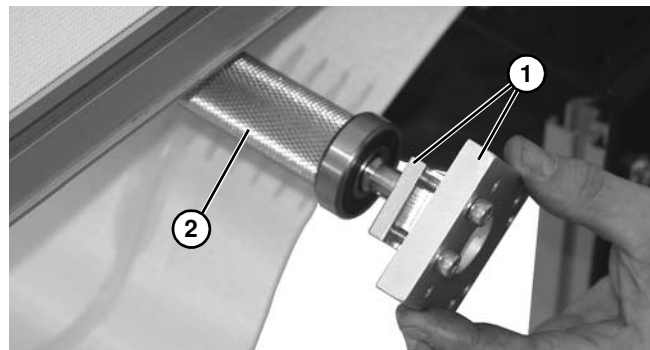

Figure 117
6. Separate mounting blocks (**Figure 117, item 1**) from spindle (**Figure 117, item 2**).